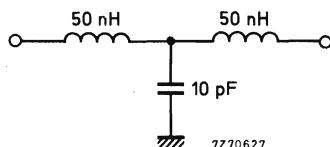

Fig. 11.
- A low-pass filter (Fig. 11) with a cut-off frequency of about 300 MHz has to be inserted between the v.h.f. aerial terminal of the tuner and the aerial terminal of the receiver. Television receivers with a common v.h.f. /u.h.f. connector in combination with a low-pass/high-pass splitter ¹⁾ may not need this additional filter.